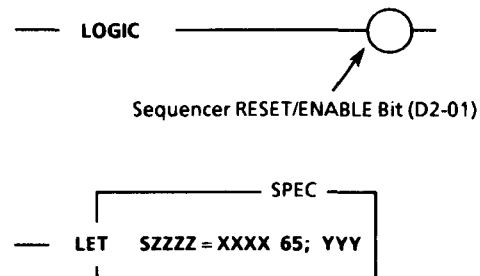

Figure 11.1 Sequencer Initiation Rungs
The minimum rungs needed to program *one* Sequencer are shown in Figure 11.1.
The rung variables in Figure 11.1 are:
1. The two rungs shown in Figure 11.1 *must* be entered. Since the LET rung must be executed every scan (even when the Sequencer is reset), there must not be any logic in front of the LET rung itself.
Although only two rungs are mandatory for Sequencer initiation (Figure 11.1), it is a good idea to use as many additional LET rungs in the program as practical. Using "LET presets" to set Sequencer values eliminates the chance of the values being lost, since the values are preserved in the ladder program.